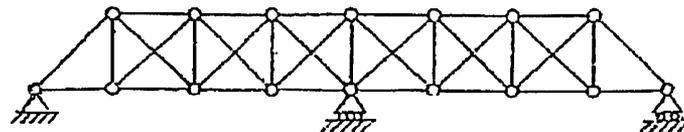

Fig Q1 (a)
- b) Determine the horizontal deflection at joint 'C' for the truss shown in the fig Q1.